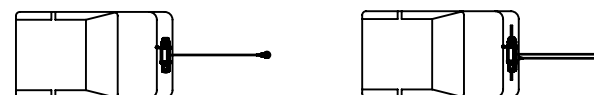

Figure2
1. Stop the winch when motor does not rotate. Overload will damage the electrical winch and the wire rope and cause other unsafety. (See figure2)